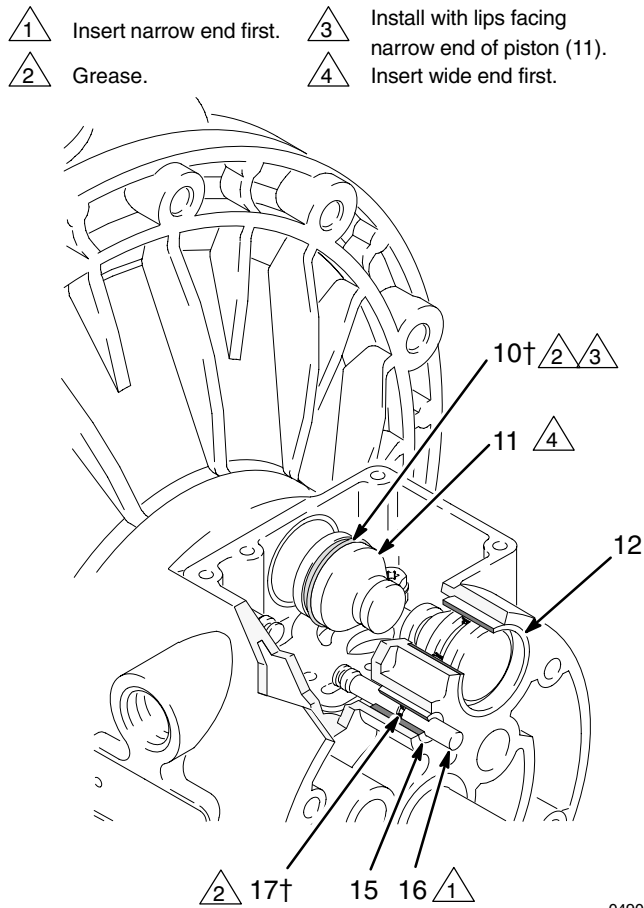

Fig. 9
4. Pull the two actuator pistons (11) out of the bearings (12). Remove the u-cup packings (10) from the pistons. Pull the pilot pins (16) out of the bearings (15). Remove the o-rings (17) from the pilot pins. See Fig. 9.
6. Inspect the bearings (12, 15) in place. See Fig. 9. The bearings are tapered and, if damaged, must be removed from the outside. This requires disassembly of the fluid section. See page 22.
4. Install an o-ring (17†) on each pilot pin (16). Grease the pins and o-rings. Insert the pins into the bearings (15), **narrow** end first. See Fig. 9.
5. Install a u-cup packing (10†) on each actuator piston (11), so the lips of the packings face the **narrow** end of the pistons. See Fig. 9.
6. Lubricate the u-cup packings (10†) and actuator pistons (11). Insert the actuator pistons in the bearings (12), **wide** end first. Leave the narrow end of the pistons exposed. See Fig. 9.